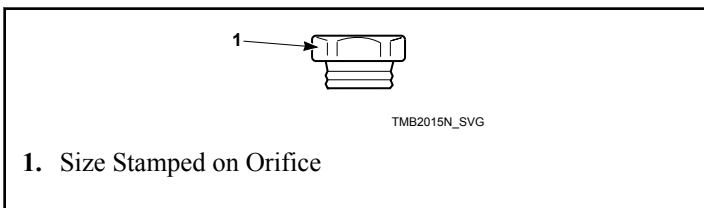

Figure 17 Burner Orifice
3. Install the new, correct burner orifice(s). Refer to *Figure 17 Burner Orifice* and *Table 1*. Torque each to 9 – 10 Nm.
4. Reinstall spud holder assembly to gas valve, making certain burner orifice(s) are in line with burner tube opening. Refer to *Figure 17 Burner Orifice*.